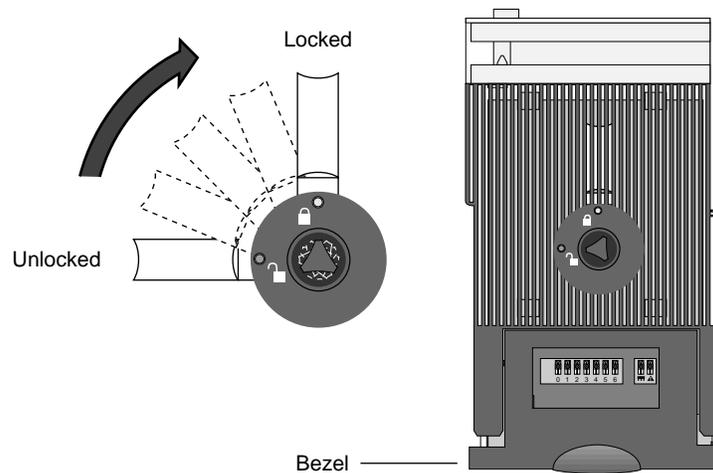

Figure 19. Locking the HDDA drive drawer
10. Insert the HDDA drive drawer key and lock the drawer by turning the key clockwise (Figure 19).